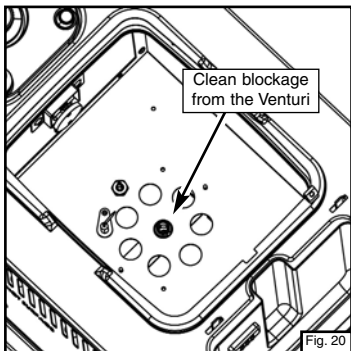

Fig. 20
- Inspect and clean the venturi (Fig. 20).